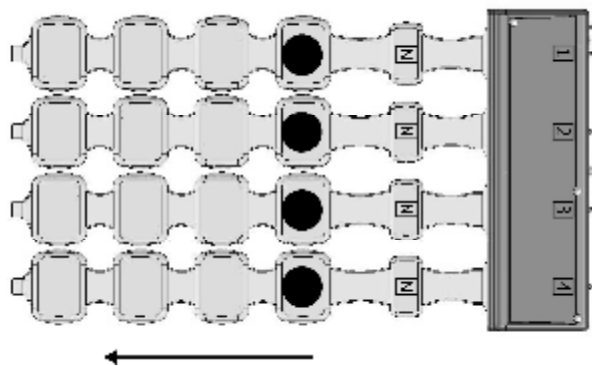

Fig. 16
- «traveling vertical» ( fig. 16) - simultaneous excitation of the same name coil-inductors in all stripe-lines ( coils assembly exposure unit) with the following one-way excitation of the neighboring coil-inductors according to the cyclic law, cycle for this scan type forms four “step” excitation of neighboring coil- inductors (according to the number of coil-inductors in the stripe-line);